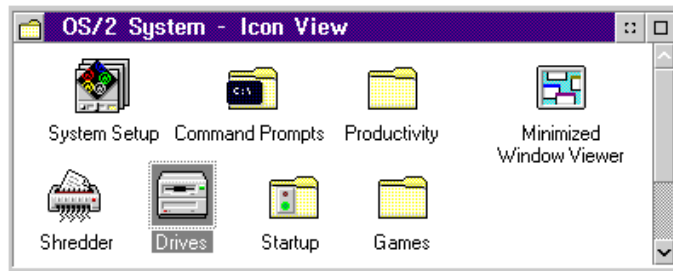

Figure 3-8 The "OS/2 System - Icon View" Window
7. Close the window and double click the Command Prompts icon in the OS/2 System - Icon View window (see Figure 3-8). The following window appears: